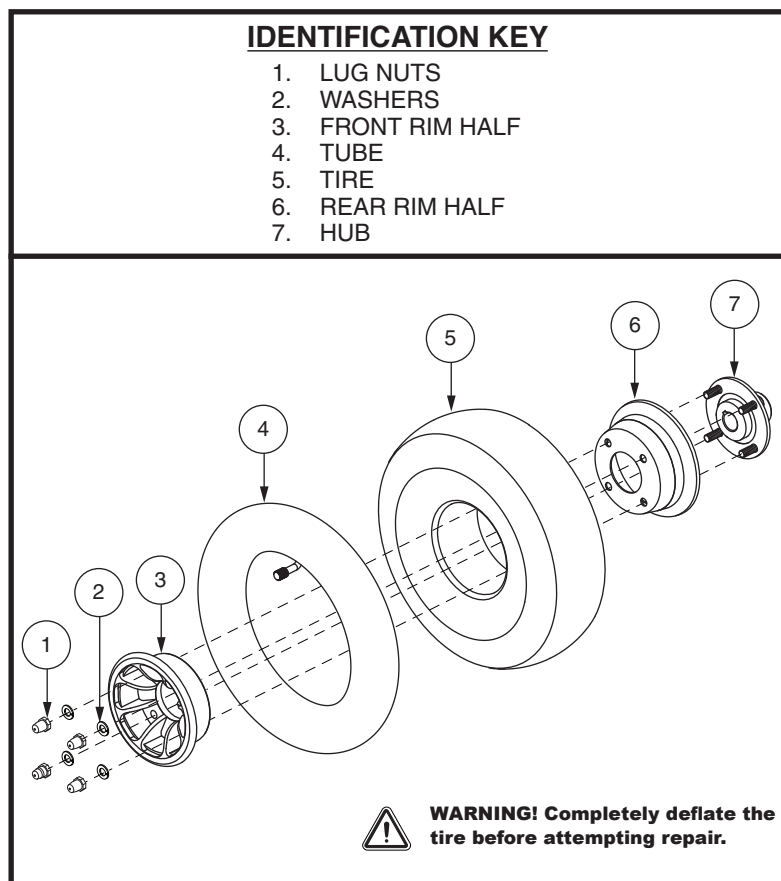

Figure 30. Pneumatic Drive Wheel Disassembly/Assembly
6. Remove the lug nuts and washers and separate the rim halves. **See figure 30.**
7. Remove the old tube from the pneumatic tire and replace it with a new tube. **See figure 30.**
9. Slide the wheel back onto the axle. Make sure that the axle key is in the axle slot. **See figure 30.**